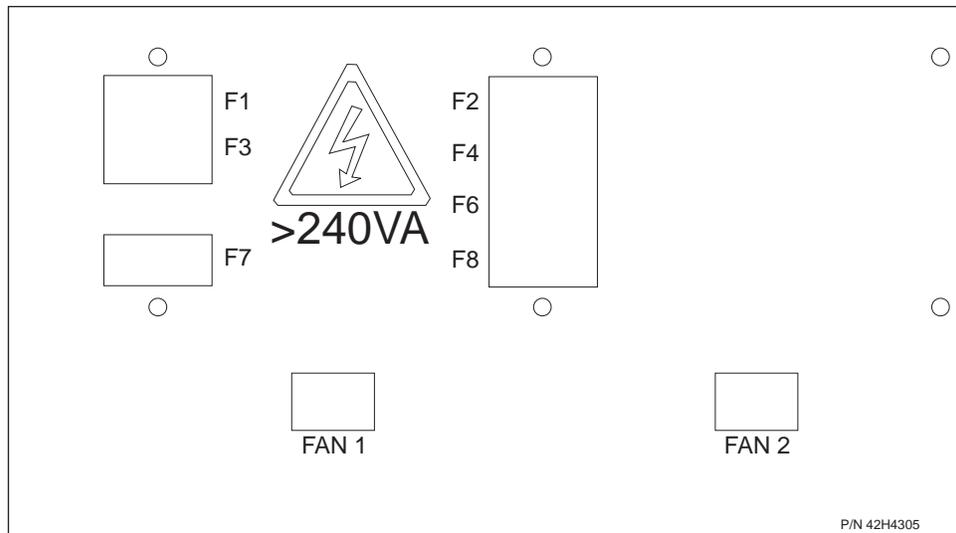

Figure 6-1. 8270-800 Fuse and Fan Connector Panel
- Step 4.** Disconnect the fan cable connector from the fuse panel (see Figure 6-1 on page 6-6) and pull it through the access hole.
- Step 5.** The fuse panel is located on the right side (as viewed from the rear) of the chassis (see Figure 6-1). There are seven fuses labeled 1 through 4 and 6 through 8. There is no fuse 5. Replace the defective fuse or fuses.